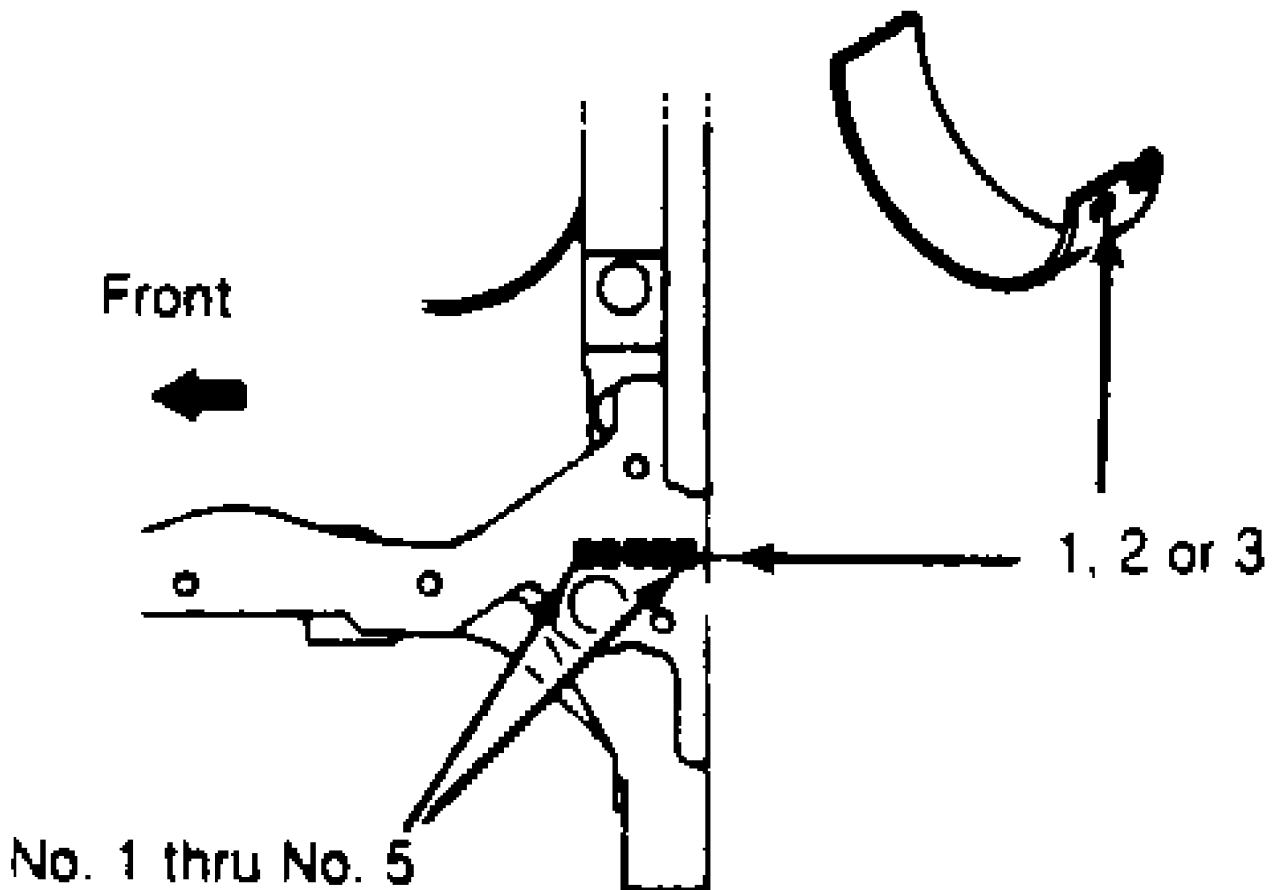

Fig. 24: Checking Standard Main Bearing Sizes
3) If the bearing number is unreadable, add the numbers on the crankshaft counterweight and the connecting rod cap for connecting rod bearings or the crankshaft counterweight the cylinder block pan rail for main bearing. See Fig. 24. Add these two figures and use the corresponding number in the MAIN BEARING SELECTION TABLE or CONNECTING ROD BEARING SELECTION TABLE. See Fig. 24.